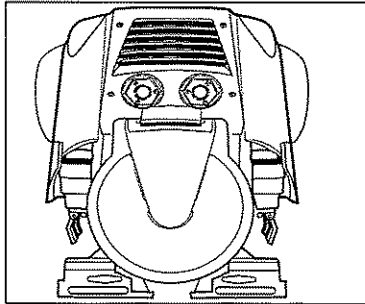
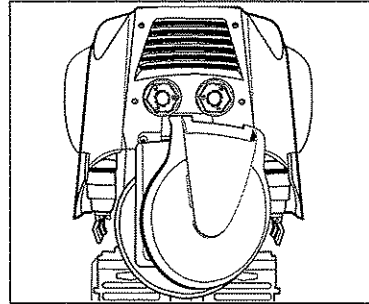

Fig 3
Fig 4
1). Open the cover on the back of V Bot by sliding it up. (see Fig 3 and Fig 4)